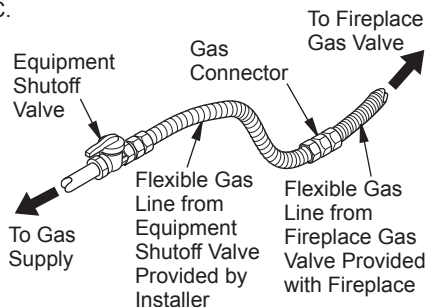

Figure 22 - Attaching Flexible Gas Lines Together
NOTICE: Most building codes do not permit concealed gas connections. A flexible gas line is provided to allow accessibility from the fireplace (see Figure 22). The flexible gas supply line connection to the equipment shutoff valve should be accessible.
2. Apply pipe joint sealant lightly to male threads of gas connector attached to flexible gas line (see Figure 22). Connect flexible gas line to flexible gas line attached to gas valve of fireplace (see Figure 22).